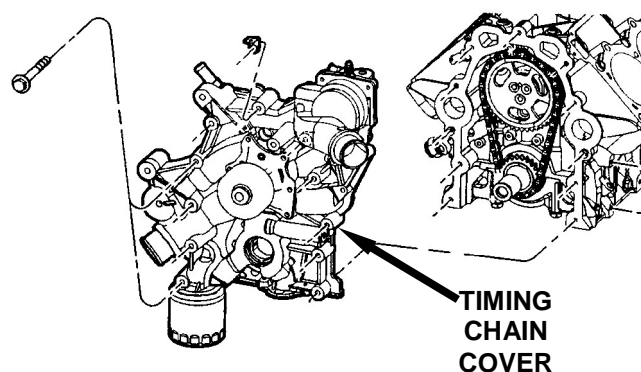

Figure 14
34. Remove the timing chain cover (Figure 14).
42. Install the timing chain cover onto the location dowels without the front crank seal installed (Figure 14).